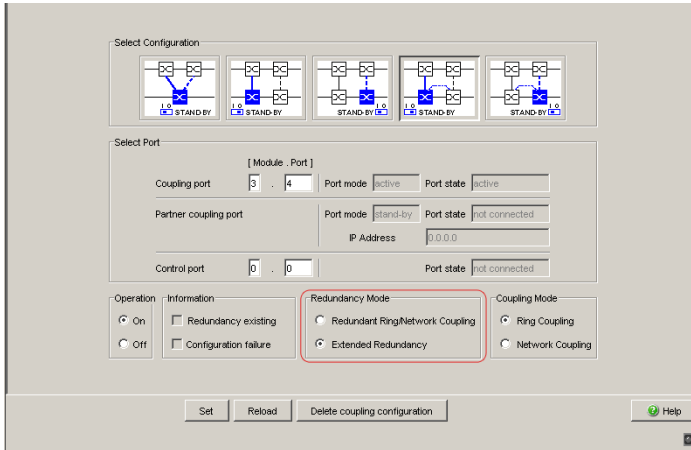

Figure 37: Selecting the redundancy mode
- In the “Redundancy Mode” frame, select (see figure 37)